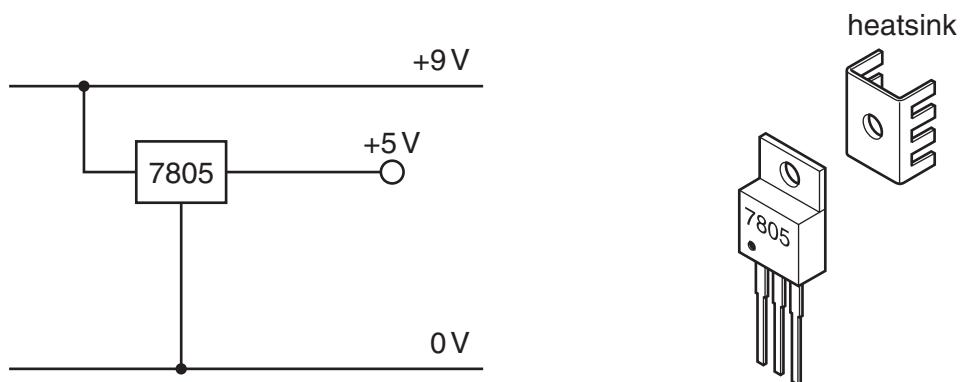

Fig. 11
- 4 PIC circuits and many logic circuits require a precise voltage supply. Fig. 11 shows part of a circuit being designed to provide a smooth +5V supply. The circuit is based on a 7805 voltage regulator IC.